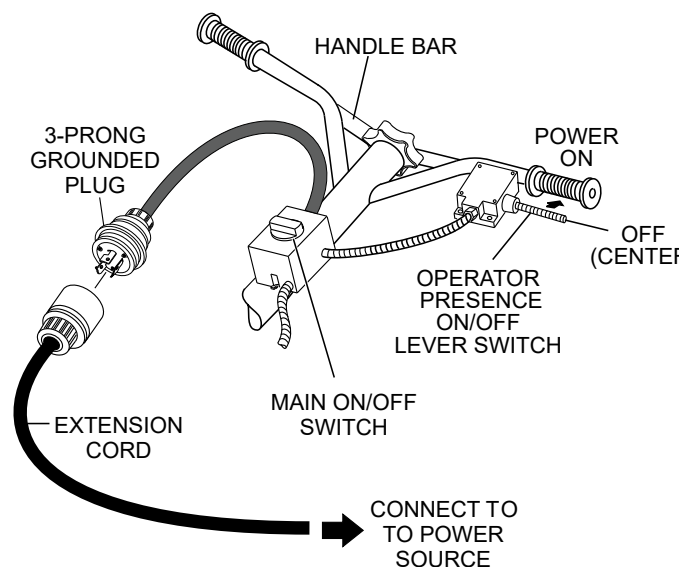

Figure 10. Starting The Electric Motor
1. Plug one end of an extension cord of adequate size into the trowel power plug (Figure 10). Refer to Table 3 for appropriate extension cord sizing.
3. Place the main ON/OFF switch (Figure 10) in the **ON** position.